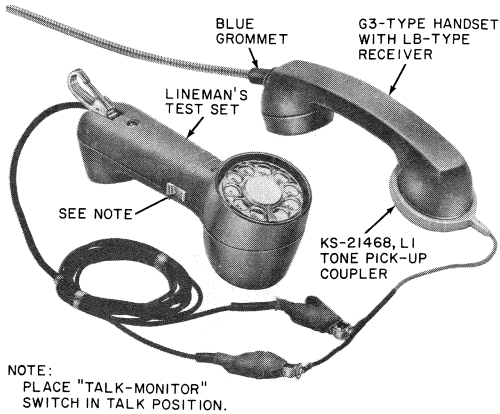

Fig. 54—KS-21468, List 1 Tone Pick-up Coupler
**5.47** If there is a clearance problem between chute and cover unit assembly on the 1-type set, bend the horizontal guide flange, located adjacent to the coin slot inside cover, as shown in Fig. 54.